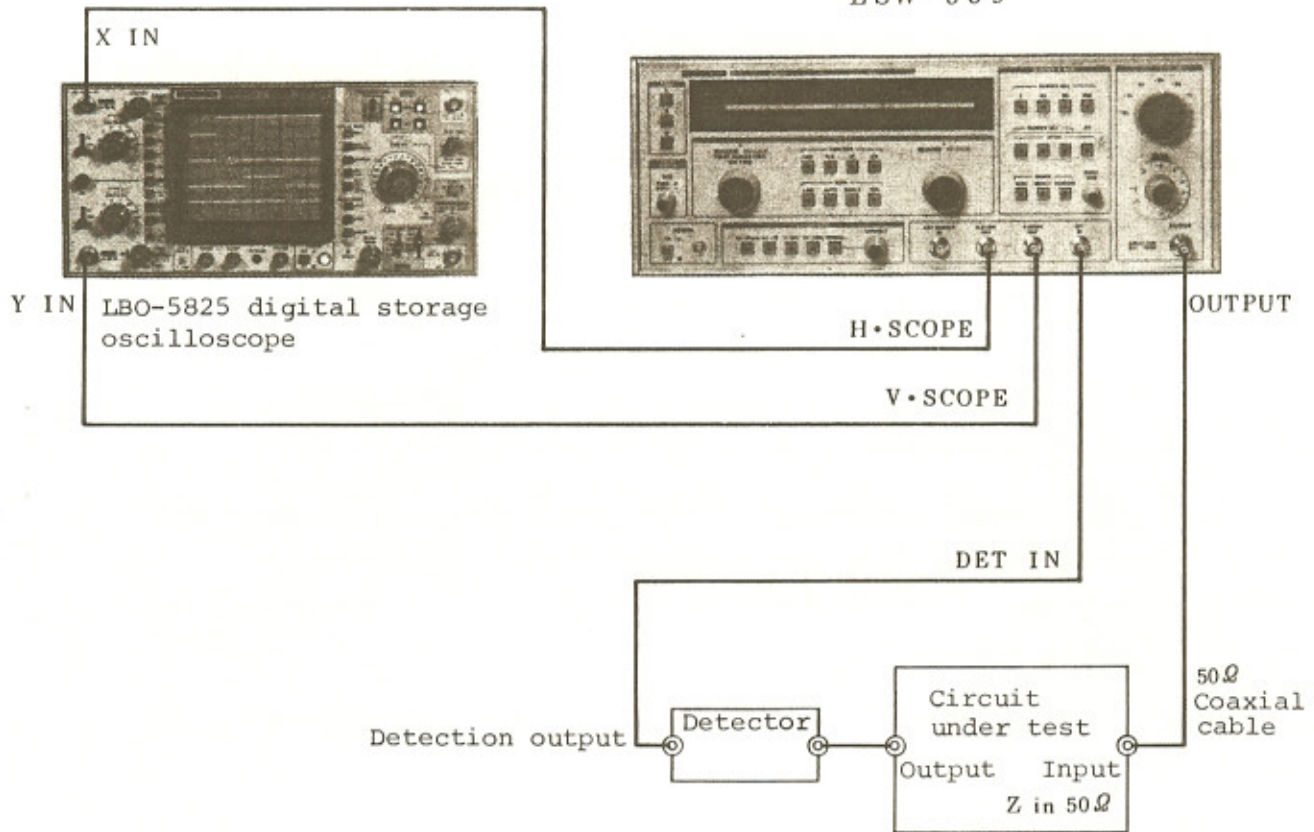

Figure 6-5 Connection to a digital storage oscilloscope
- (1) When the sweep speed cannot be increased
- (A) Connect the LSW-359 to an LBO-5825 in the setup shown in Figure 6-5.
- (B) Set the LBO-5825 as follows:
- (I) If the stored waveform still appears broken when the LBO-5825 TIME/DIV switch is set to 0.5s/div, set it in the ROLL display mode and adjust the TIME/DIV switch again.
(2) When multiple waveforms on display are compared
- (A) Connect the LSW-359 to an LBO-5825 in the set-up shown in Figure 6-5, and perform the steps (A) through (H) in (1) above.
- (B) Simultaneously press MEMORY PROTECT HALF switches CH1 and CH2 to store the initial waveform.
- (C) In this condition, change the circuit to be tested. Then, the waveforms of the old and new circuits being tested can be observed on the same screen.
- (D) If no error occurs at a sweep speed setting that permits satisfactory observation of a real waveform, set the LBO-5825 in the REAL & STORAGE waveform, and up to three detected waveforms can be compared on the same screen by using MEMORY PROTECT switches HALF and ALL.